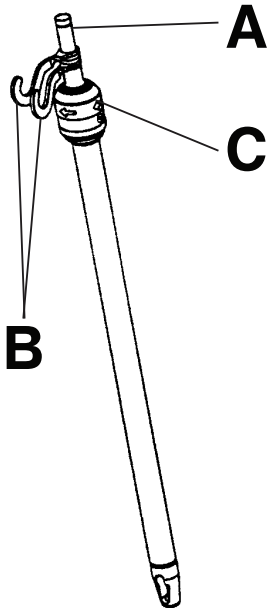

Figure 21 – Two-stage IV pole
2. To raise the height of the pole, pull up on the telescoping portion (A) of the pole until it locks into place at its fully raised position (Figure 21).
3. Rotate the IV hangers (B) to the desired position and hang the IV bags (Figure 21).
4. To lower the pole, turn the latch (C) clockwise until the telescoping portion (A) lowers into the bottom tube (Figure 21).